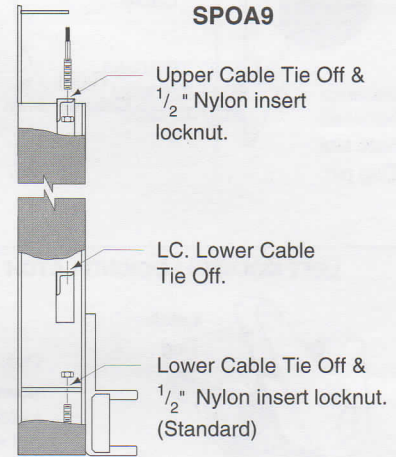

Fig. 10
11. Equalizing Cables: Fig. 10 describes general cable arrangement. It's easier to tie off lower studs first. Run cable stud up thru the lower tie off plate, and bracket(s) depending on lift model, using $\frac{9}{16}$ " hole. Push cable up until stud is above top of carriage tube. Run nylon insert locknuts onto studs so that $\frac{1}{2}$ " extends out from top of locknut, then pull cable back down, Fig. 10. Run cable overhead and tie off top studs torquing to about 10 ft.-lbs.